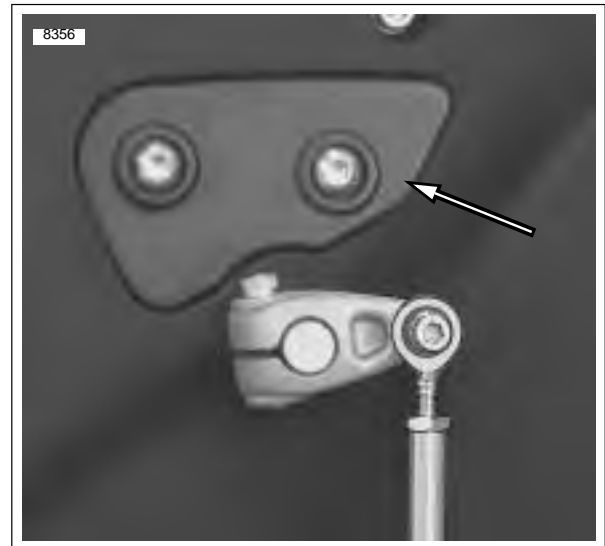

Figure 1-27. Primary Chain Inspection Cover
See Figure 1-27. Measure primary chain tension through the inspection cover opening. Adjust primary chains not meeting vertical free play specifications.
1. See Figure 1-27. Remove two fasteners with captive washers and primary chain inspection cover with gasket from primary cover.
4. See Figure 1-27. Install primary chain inspection cover and **new** gasket to primary cover using two fasteners with captive washers. Tighten fasteners to 84-108 **in-lbs** (10-12 Nm).